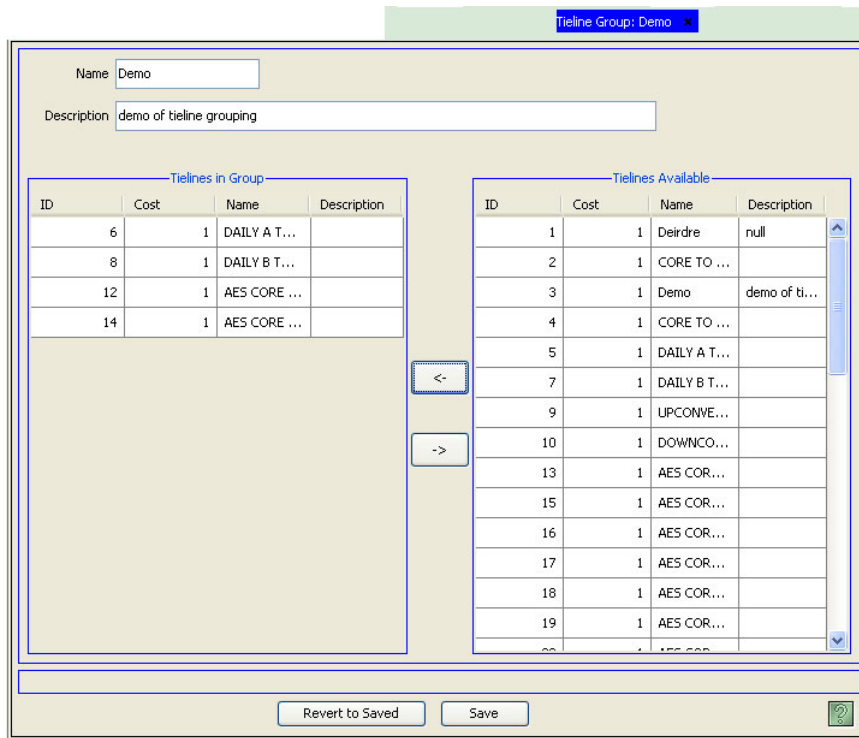

Figure 16-32. Tieline Group Details Page
- 2 Double click on a single row to view details for that tieline group in the 'Tieline Group Detail' page, as shown in Figure 16-32.